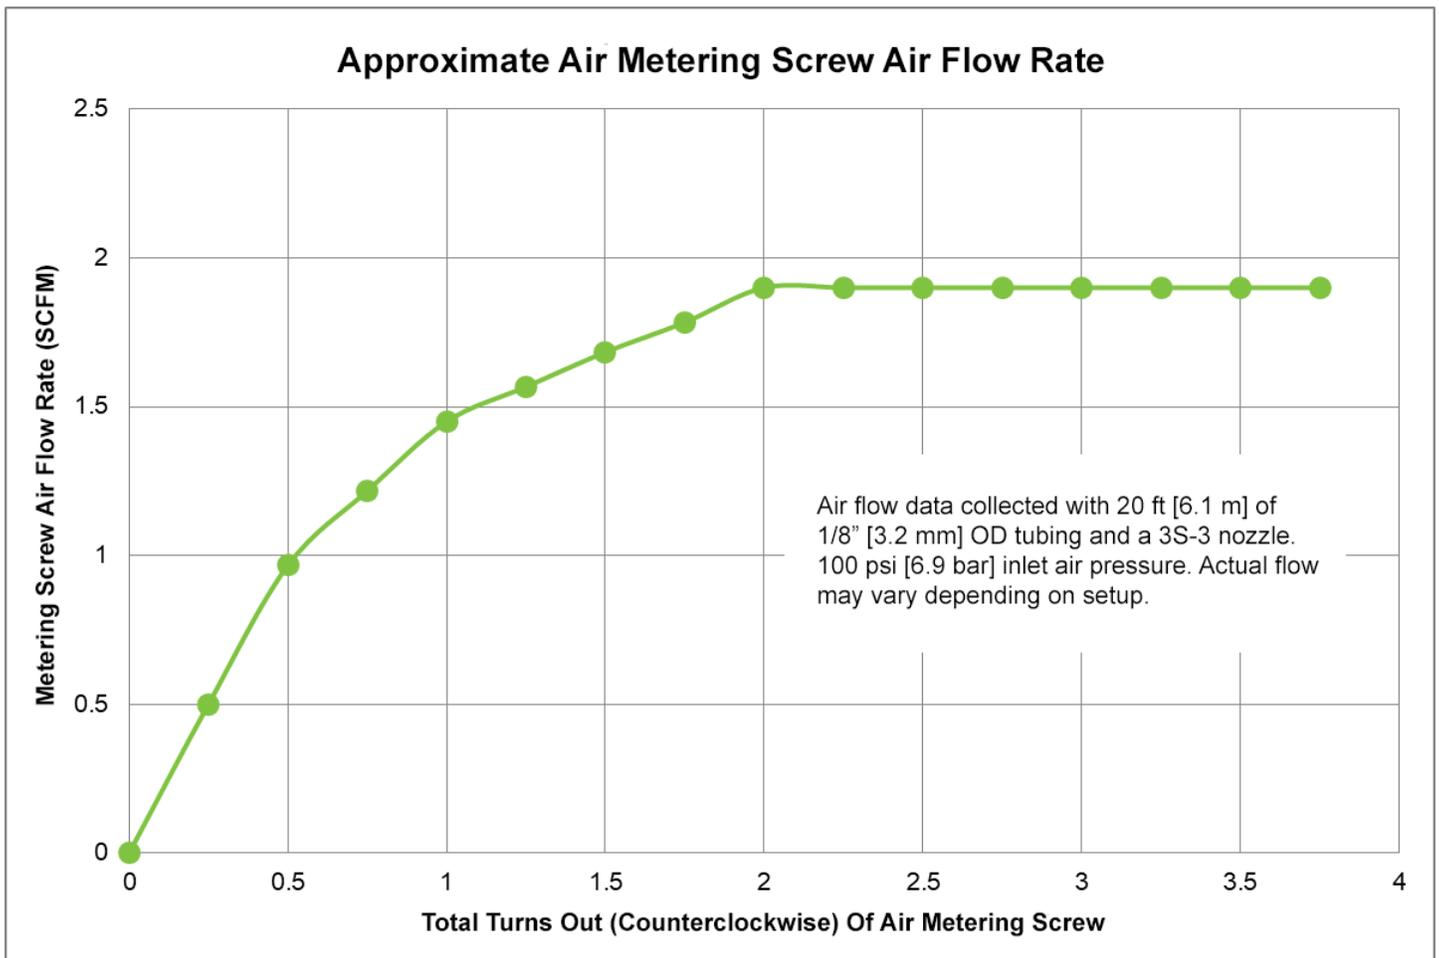

Figure 52: Approximate air metering screw air flow rate
- Inspect the pulse generator inlet screen for debris. (See Figure 52).